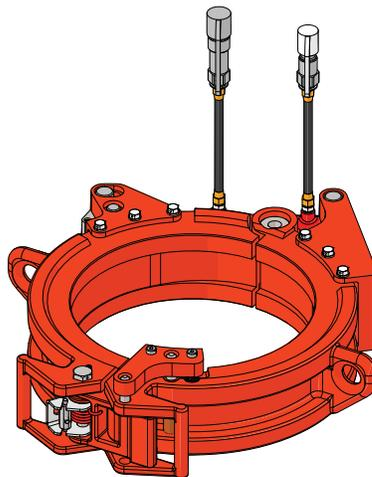

Figure 1: Single Joint Automated Elevator for 13-3/8" Casing
- Single Joint Automated Elevator for 13-3/8" Casing (Canrig P/N: 990322). See Figure 1.